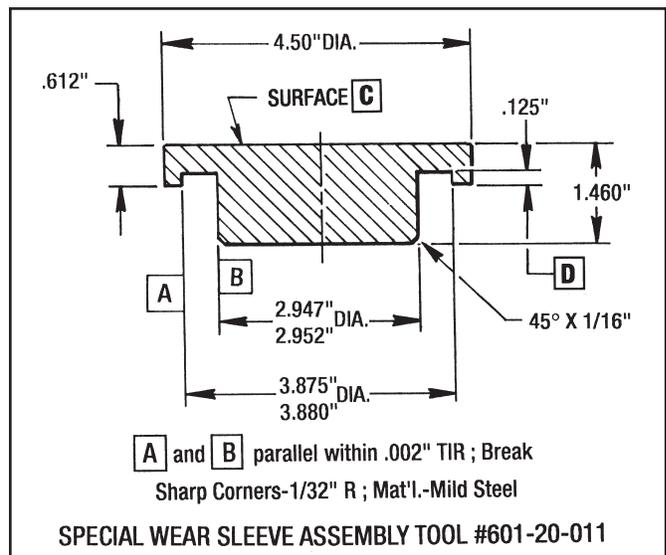
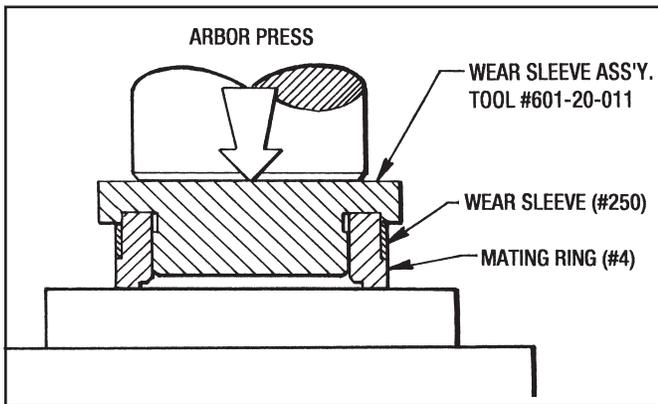

Figure 9.7 - Wear Sleeve Assembly Tool for #20 Posidyne
Figure 9.8 - (Step 2) Installing Wear Sleeve (#250) on Mating Ring (#4) for #20 Posidyne
NOTE: Use Wear Sleeve Assembly Tool #601-20-011 shown in Figure 9.7 and the same procedure shown in Figure 9.8 to press this Wear Sleeve (#250) onto the Mating Ring (#4).
6. Place the Input Housing and Input Shaft into an arbor press. Using **Surface "A"** of the Ass'y. Tool, press the Wear Sleeve (#4) until it is flush with the input shaft shoulder (See Figure 9.6 Step 1). Turn the Tool around and with **Surface :B"** proceed to press the Wear Sleeve (#4) completely onto the shaft until it bottoms out on the next shaft shoulder. (See Figure 9.7 Step 2).
8. Place tape over the keyway and slide the Bearing Retainer (#7) over the Input Shaft, being careful not to damage the lip of the Oil Seal (#31). Attach the Bearing Retainer with (8) Screws (#63). **Torque to 25 Ft. Lbs.**
A special **Wear Sleeve Assembly Tool** must be used to install the Wear Sleeve (#250) onto the Mating Ring (#4). This Tool can be ordered from Force Control by using **Part Number 601-20-011**. Machining Dimensions are also given in Figure 9.7 if you prefer to make your own.
- Apply Sealant (Loctite #271) on the I.D. of the Wear Sleeve (#250) and with surface "C" of the Assembly Tool press the Wear Sleeve (#250) onto the Mating Ring (#4) until it is flush. Turn the tool over. Use surface "D" to seat the Wear Sleeve properly. (See Figure 9.8.)